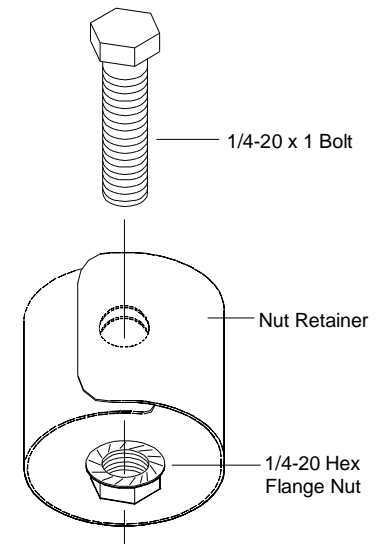

Fig. 2 Nut Retainer
1. Place a 1/4-20 x 1" bolt through the hole in the Nut Retainer. (See Fig. 2)
D. Attach one end of each Telescoping Tube Assembly to each of the Angle Brackets using one (1) 1/4-20 x 1" bolt and nut, and the other end of the Telescoping Tube to the Chimney Support Band using one (1) 1/4-20 x 1/2 Carriage bolt and nut. The flattened tube ends can be bent as necessary.
F. Remove the nails which temporarily are holding the Angle Brackets. Secure the Angle Brackets to the roof structure using two (2) 1/4 x 2" lag Bolts for each Bracket.